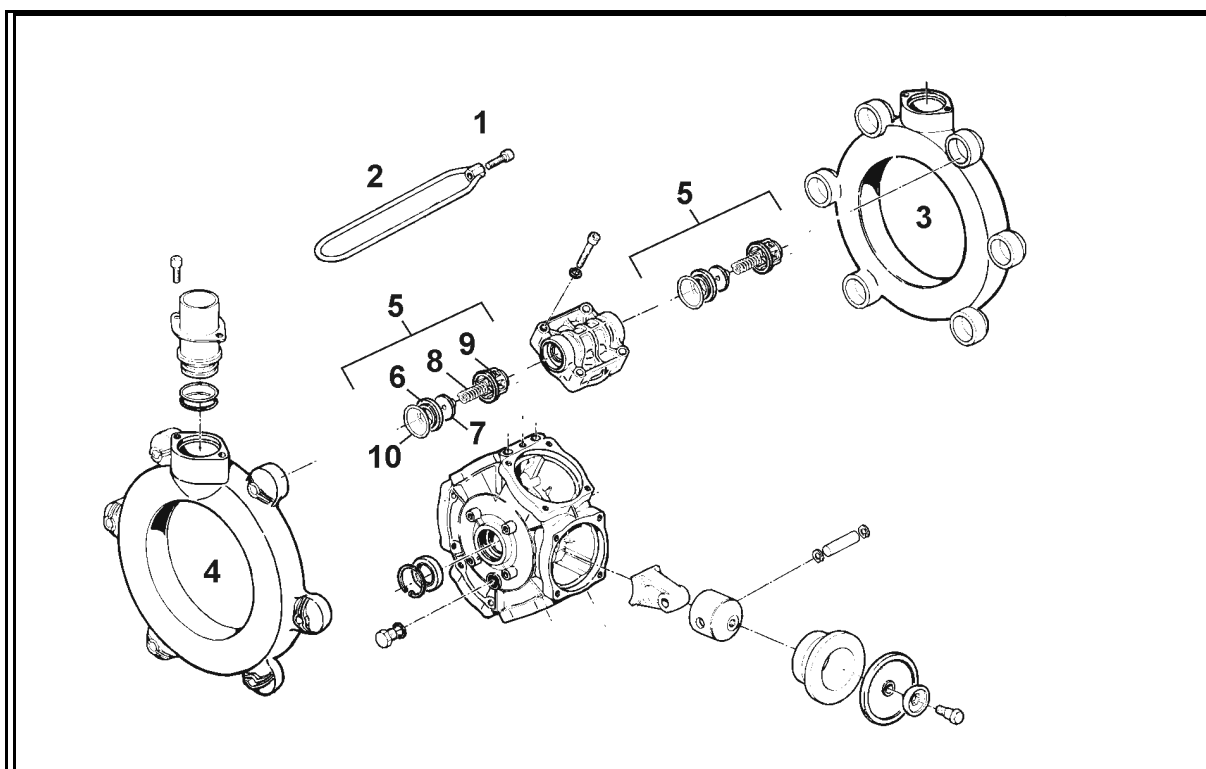

Fig. 155
If this is not the case, with the swing compensation **unlocked** align the folded-out sprayer boom by means of counterweights (Fig. 155/1). Secure the counterweights to the boom extension accordingly.
1. Release the screws (Fig. 155/2) of the securing link (Fig. 155/3). The boom is aligned directly at the plastic catch (Fig. 155/4) through the slotted holes of the securing link.
3. Tighten the screws (Fig. 155/2).